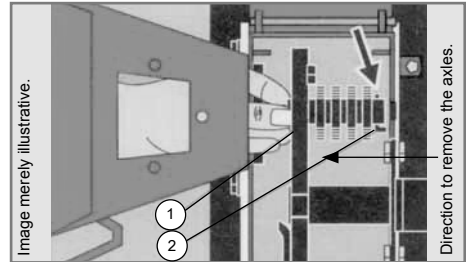

Fig. 11
To change position of hammers or to substitute them, remove the axle (1) counterpins and the lock (2) (figure 11). Remove them through the opening in the green crop feeder. When removing them, to avoid unbalance and vibration of the shredder, always observe the position of the separating rings. Be careful not to mix the hammer sets (sides). Replace or change the mobile hammer side on a stepwise way; after completing an axle, proceed to the following one: